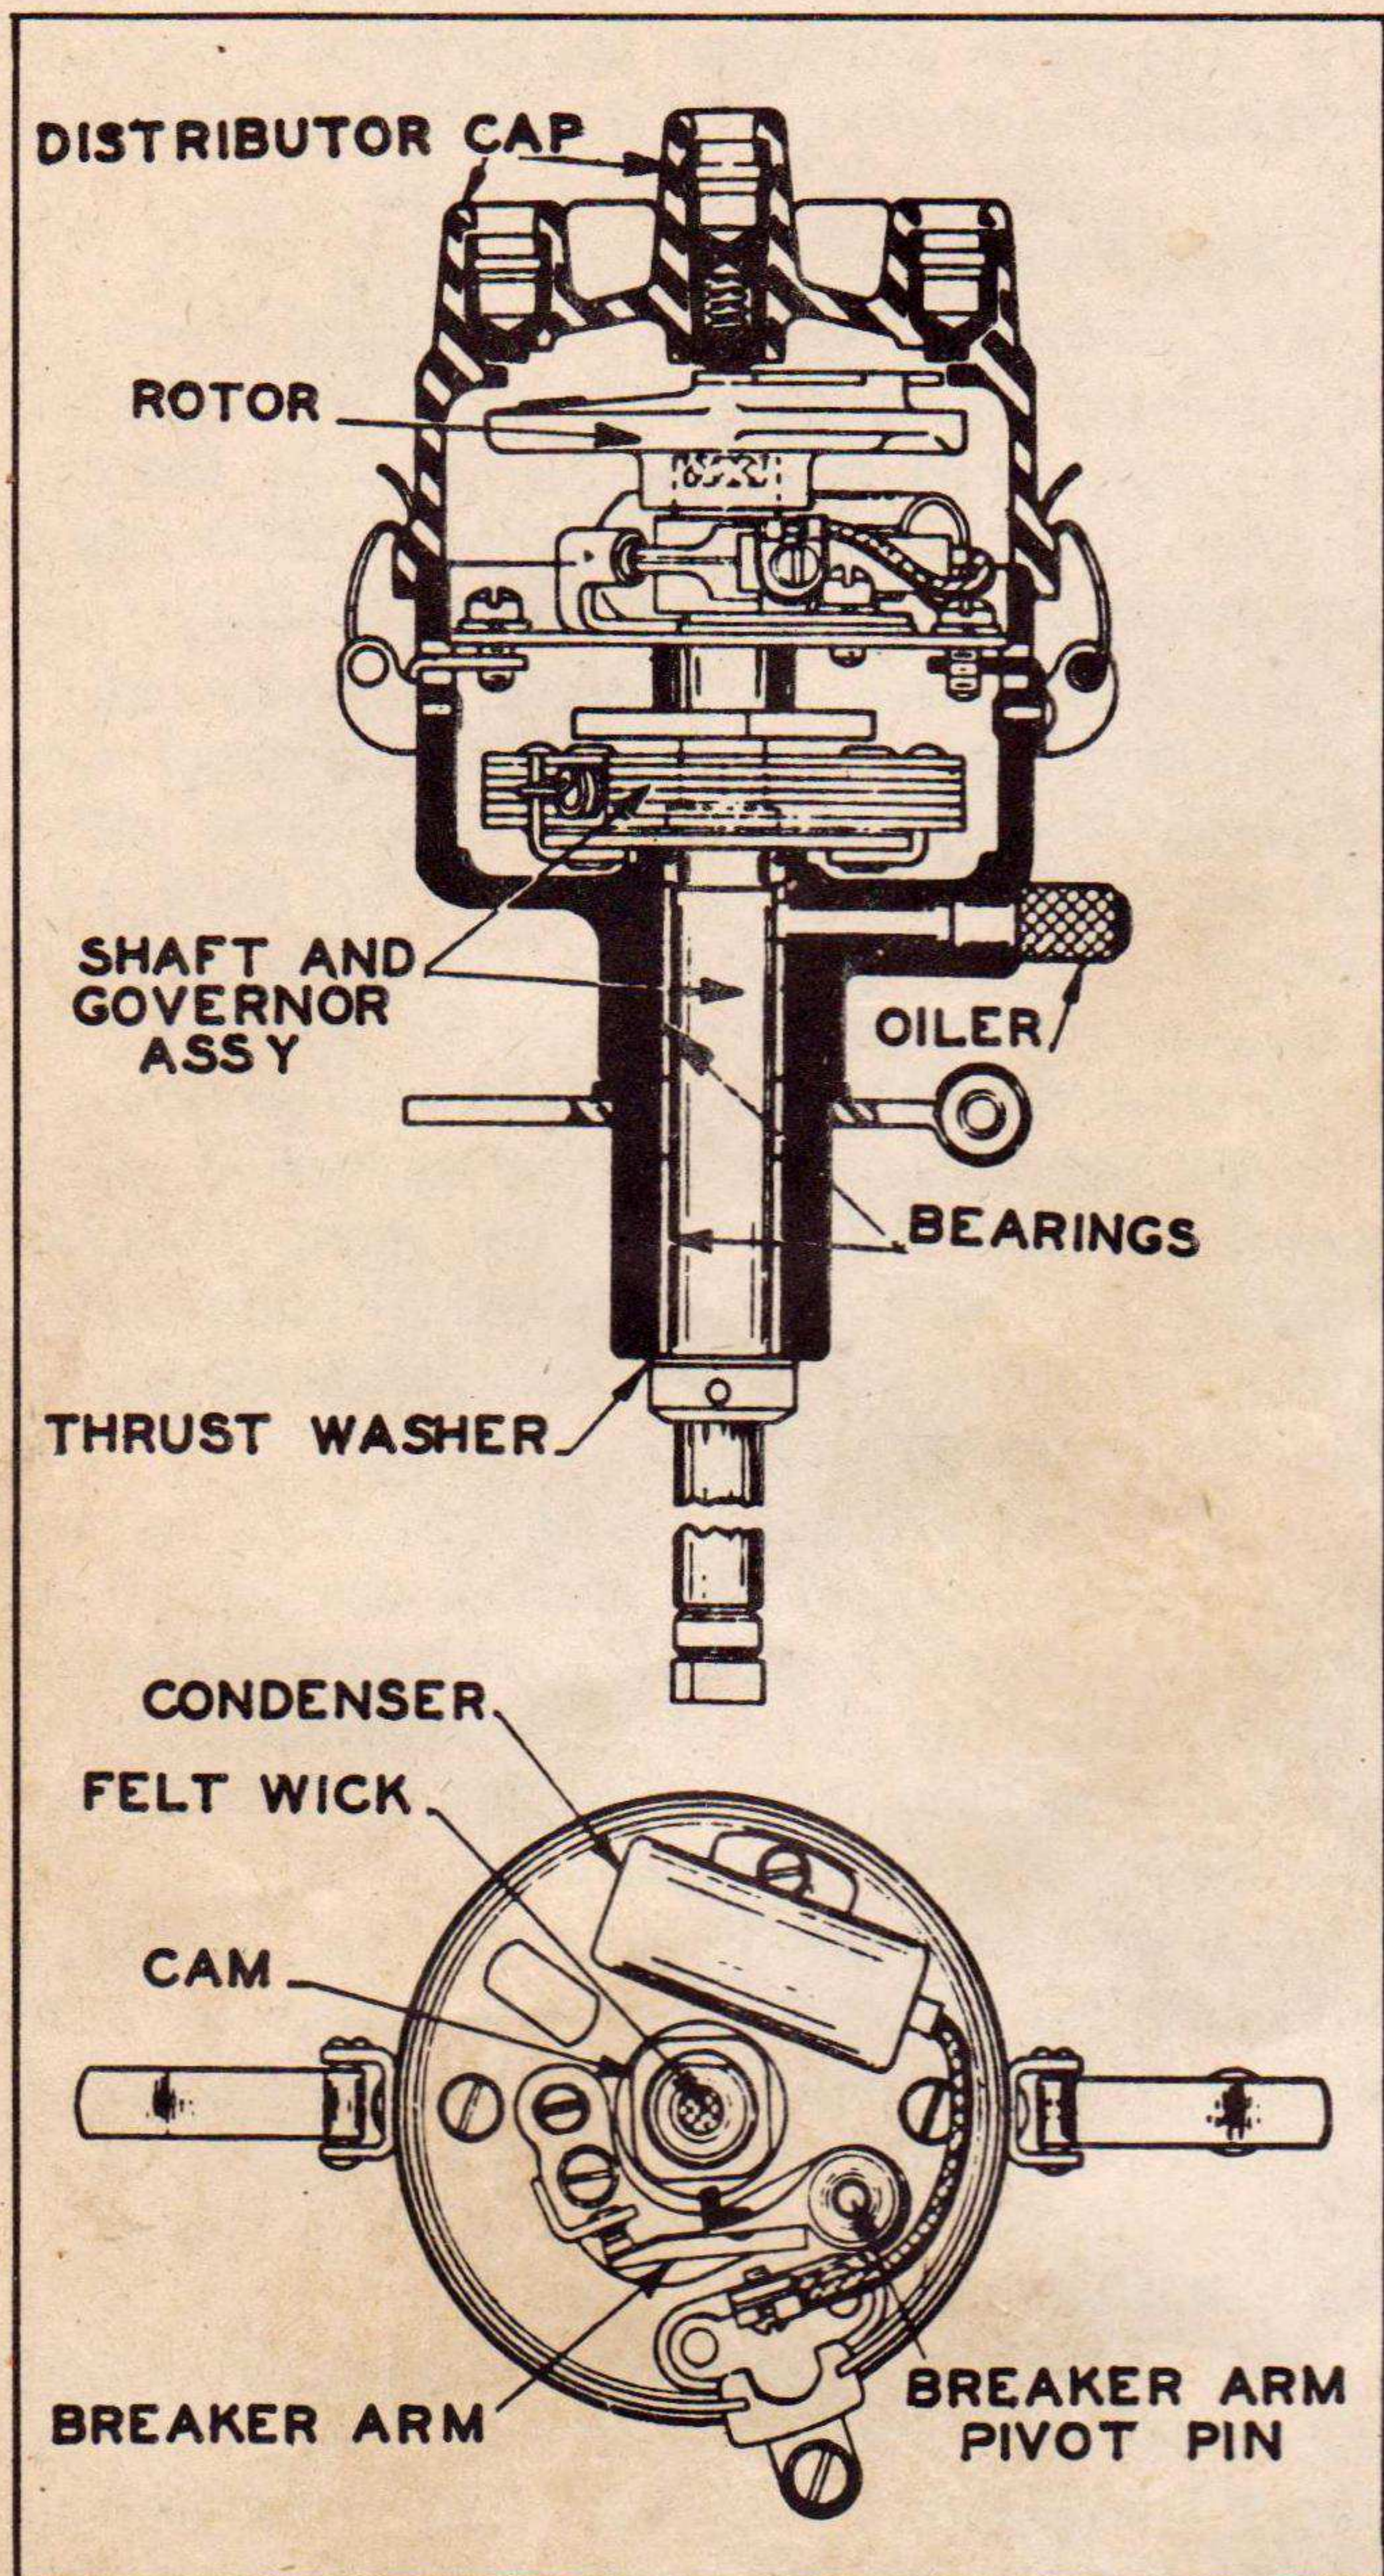

FIG. 11 IGNITION UNIT
*a. Purpose.* — The generator, Figs. 11, 12 and 13, receives mechanical power from the engine and converts it to electrical power. It consists of a d-c exciting generator and a revolving field type of alternator.